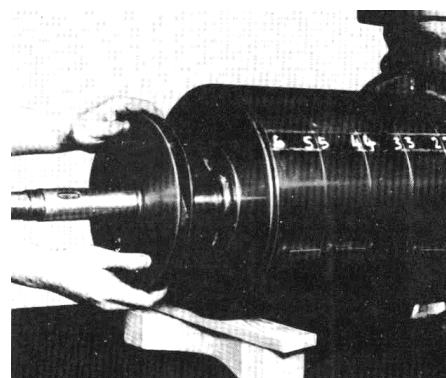

Fig. 72 - Mounting the impeller
4. Mount stage-casing (108) together with inserted diffuser (171.1) and flat gasket (400.2), and slip stage sleeve (521) onto the shaft (see Fig. 72).